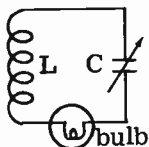

FIG. 18-3. ABSORPTION TYPE WAVEMETER.
**ABSORPTION TYPE WAVEMETER.** If a high "Q" tank circuit is placed in the vicinity of an RF field, it will absorb energy from this field and start to oscillate if the resonant frequency of the tank circuit is equal to the frequency of the radiation. This is the principle of the absorption type wavemeter. Its circuit is illustrated in Fig. 18-3.